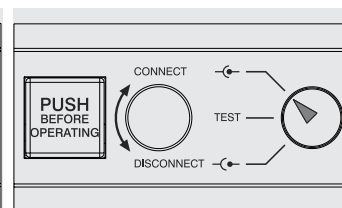

Figure 54
- circuit-breaker in CONNECT position (see Figure 54)